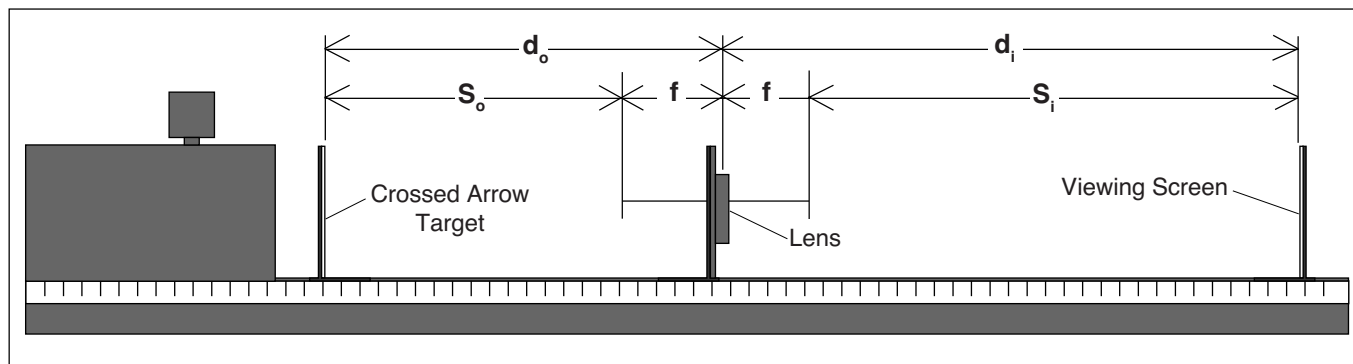

Figure 7.1: Equipment Setup
where f is the focal length of the lens, and d_o and d_i are the distance from the mirror to the image and object respectively (see Figure 7.1). The magnification of the image is given by the equation:
►**NOTE:** Instead of the above equation, you may have learned the Fundamental Lens Equation as $S_o S_i = f^2$, where S_o and S_i are the distances between the principle focus of the lens and the object and image, respectively. If so, notice that $S_o = d_o - f$, and $S_i = d_i - f$ (see Figure 7.1). Using these equalities, convince yourself that $1/d_o + 1/d_i = 1/f$ and $S_o S_i = f^2$ are different expressions of the same relationship.
Set up the equipment as shown in Figure 7.1. Turn on the Light Source and slide the lens toward or away from the Crossed Arrow Target, as needed to focus the image of the Target onto the Viewing Screen.